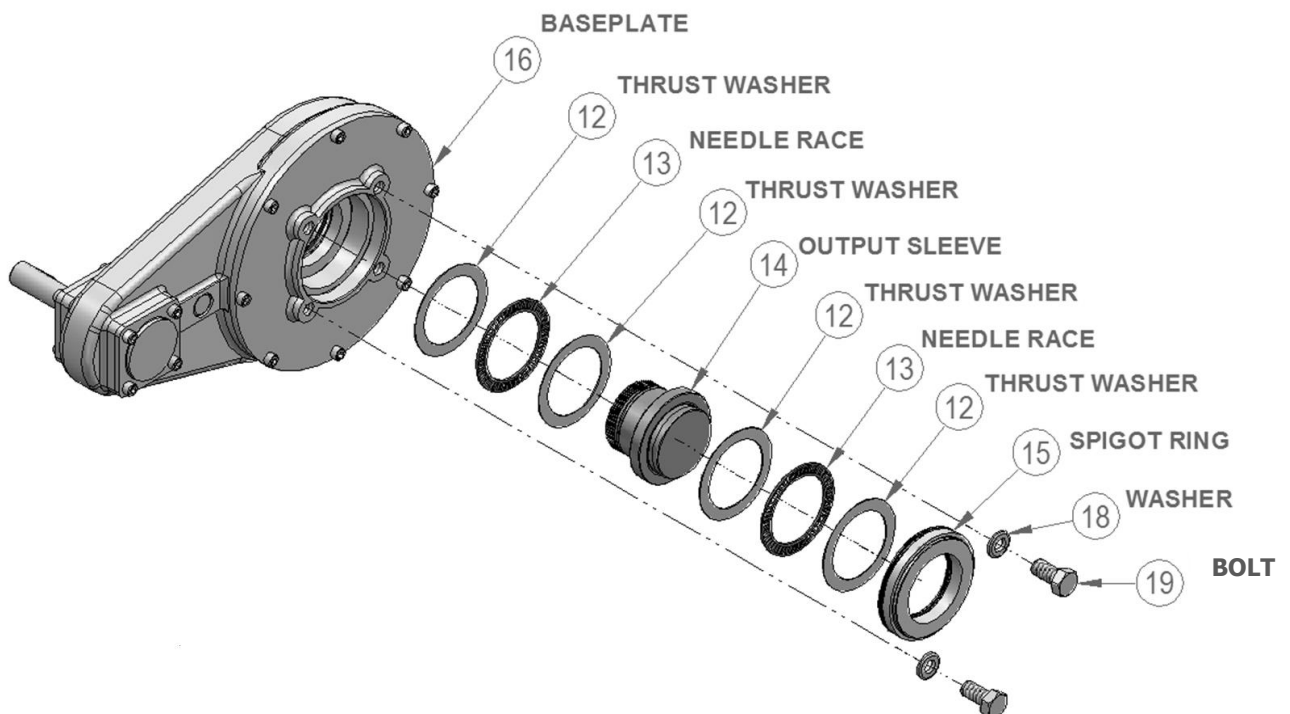
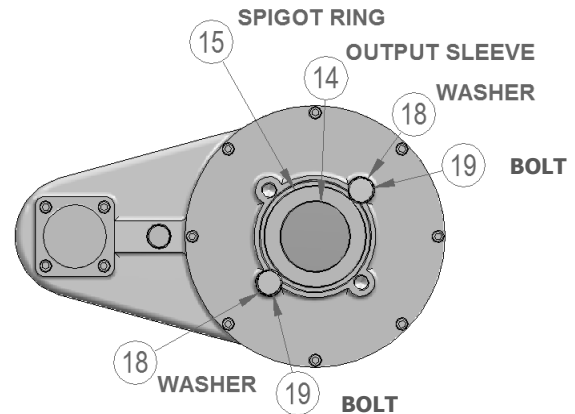

Figure 7 – Bevel and Spur Gearbox Output Sleeve Assembly
Figure 10 - Securing Spigot Example
! We recommend fitting a bolt and washer system onto the baseplate of bevel and spur gearboxes before moving them, as illustrated in Figure 7 and Figure 10.
Refer to Figure 7. The output sleeve arrangement is identical for all gearboxes although large gearboxes have cylindrical roller thrust bearings instead of needle roller bearings.
- ! **IMPORTANT:** The thrust bearings in the output **MUST** be fitted correctly, along with the output sleeve and the spigot ring. Refer to Figure 7. The thrust bearings (13) **MUST** have a thrust washer (12) at each side of the bearing. A bearing / washer assembly **MUST** be fitted at each side of the output sleeve thrust shoulder.
- ! We recommend fitting a bolt (19) and washer (18) fixture into the base of the gearbox as illustrated in Figure 7 and Figure 10. Note that the washers must overlap the spigot ring (15). This will stop the output sleeve assembly from becoming detached from the main body. The bolts and washers are not supplied by Rotork Gears.